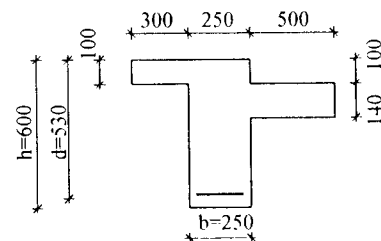

Fig.2
3. For the reinforced concrete section shown in Fig.2, calculate the tensile reinforcement required to resist an ultimate moment ( $M_u=350\text{ kN.m}$ ).